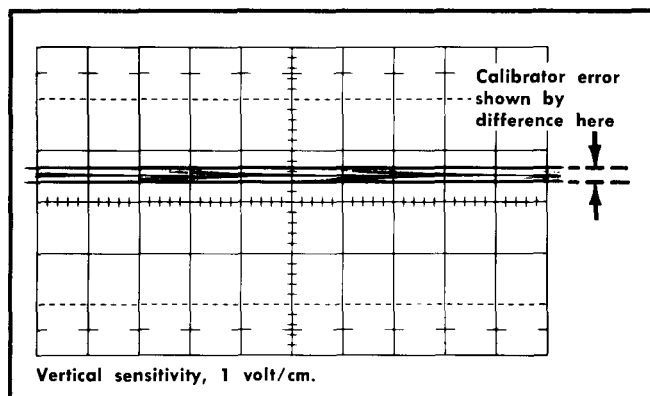

Fig. 6-14. Typical display, Amplitude Calibrator adjustment.
- f. Check—Amplitude of display not more than 2 cm. See Fig. 6-14 for a typical display.